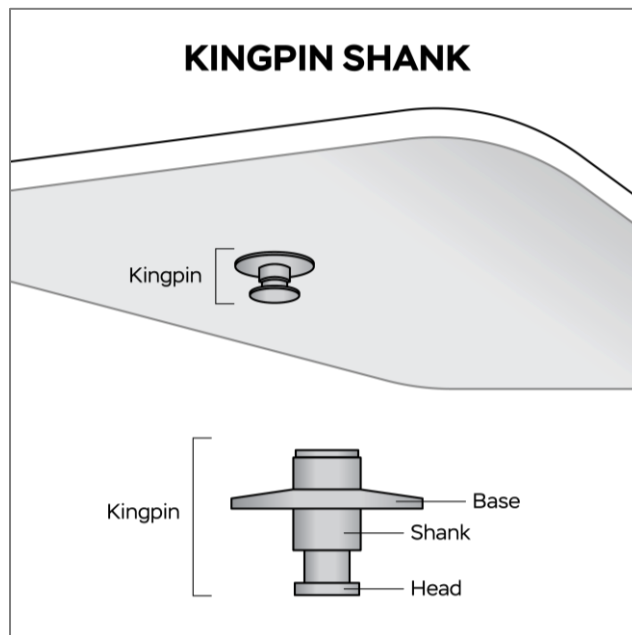

Figure 6.16
- Locking jaws are around the shank and not the head of kingpin. See Figure 6.16.